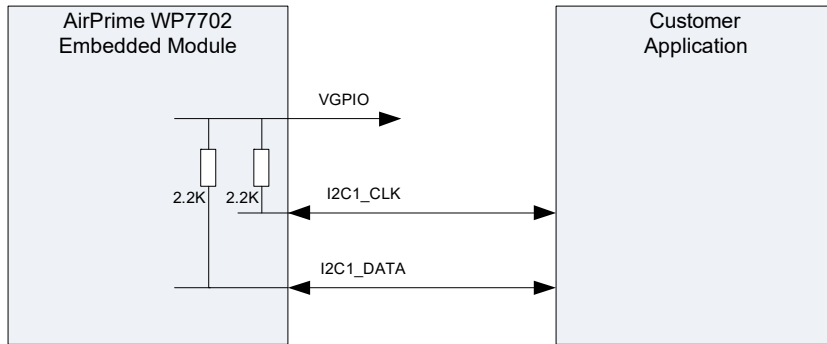

Figure 4-3: Example of I²C Bus Application
- I²C signals are implemented internally as open drain outputs (per the I²C specification) with 2.2 kΩ pull-up resistors to VGPI0 (see Figure 4-3 on page 71).